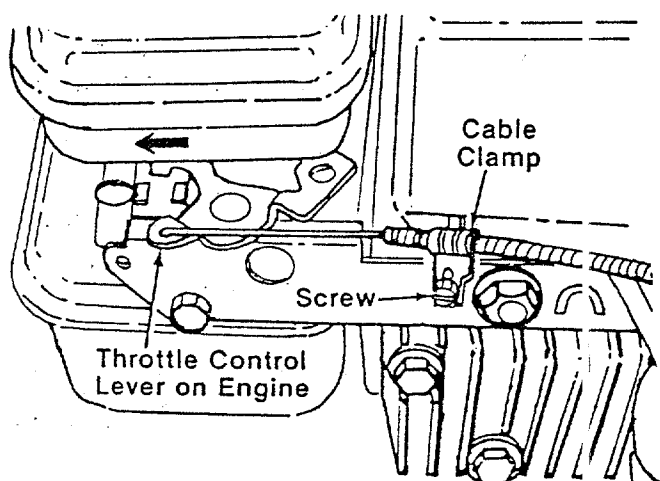

FIGURE 9.
12. Push the throttle control lever on the engine to the full open position (as far toward the outside of the unit as it will go) as shown in figure 9.
14. Remove the screw on the cable clamp shown in figure 9. Slip the control casing under the clamp. With the throttle lever on the engine still in the full open position, tighten the screw to secure the throttle control cable.